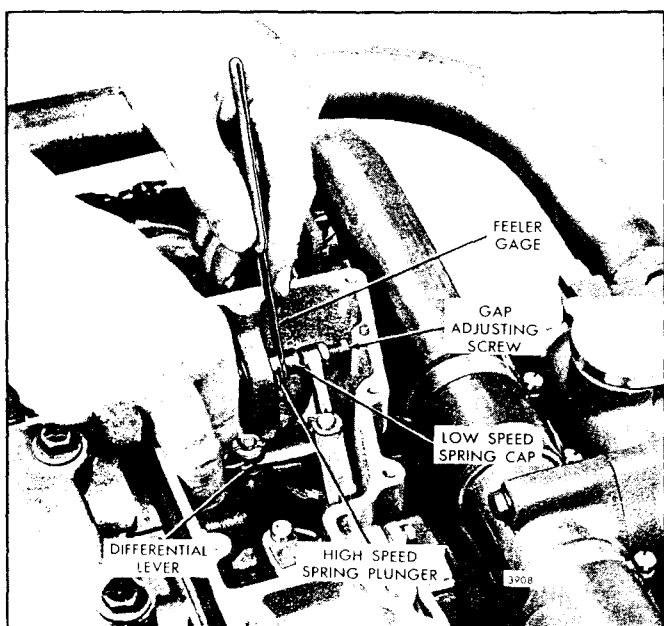

Fig. 9 - Checking Governor Gap
6. Check the gap between the low speed spring cap and the high speed spring plunger with a .0015" feeler gage. If the gap setting is incorrect, reset the gap adjusting screw (Fig. 9).